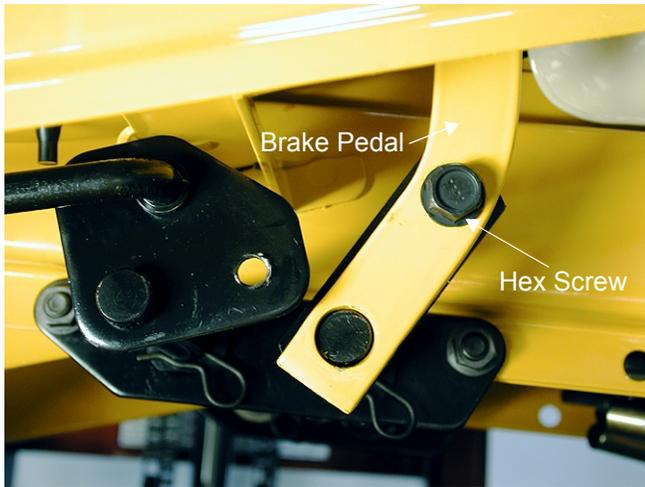

Figure 2
- Remove the hex screw securing the brake pedal to the cross shaft using a 9/16 in. socket. See Figure 2.